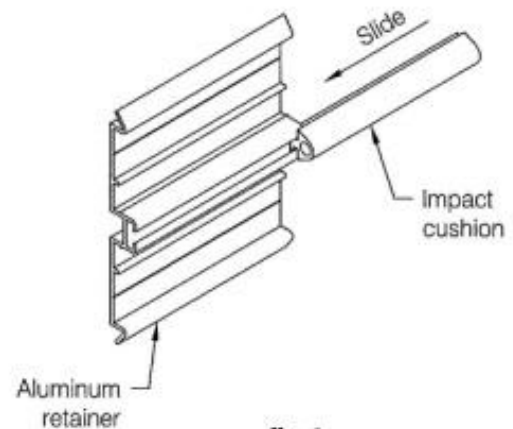

fig 4
- Step 5:** Install B-100-0-1 impact cushion by sliding it into opening provided in aluminum retainer, see **fig 4**.